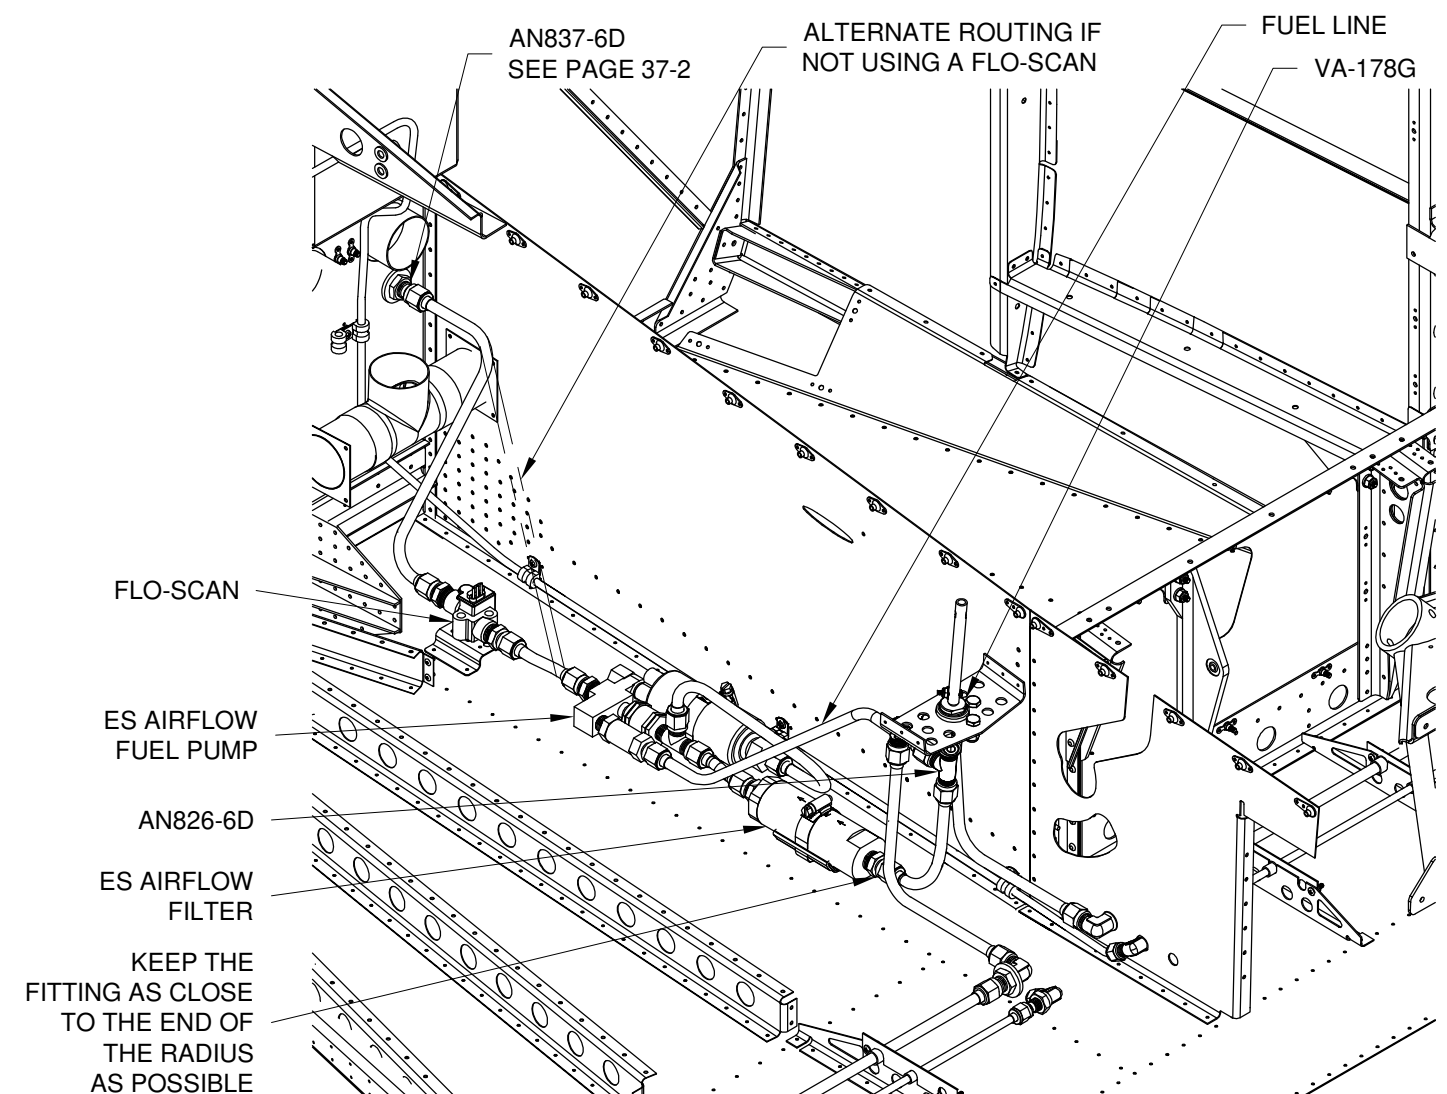

FIGURE 3: FINISHING THE TUNNEL FUEL LINES
Check that the fuel lines have adequate clearance from all aircraft structure then install them. See Figure 3.
Step 6: If not using the Flo-Scan or FT-60 make a fuel line that directly connects from the ES AIRFLOW FUEL PUMP to the AN837-6D 45° Elbow Bulkhead Fitting attached to the F-1001 Firewall Bulkhead Assembly. This fuel line should follow the alternate fuel line depiction shown with phantom lines in Figure 3 and have adequate clearance from all parts of the aircraft structure.
Step 7: Make a fuel line that connects the bottom of the AN826-6D Tee Fitting (on the bottom of the VA-178G Fuel Valve) to the inlet side of the ES AIRFLOW FILTER. Keep this line as far forward as possible to provide clearance for the control system. Make a fuel line that connects the check valve on the ES AIRFLOW FUEL PUMP to the horizontal leg of the tee fitting on the bottom of the fuel valve. See Figure 3.